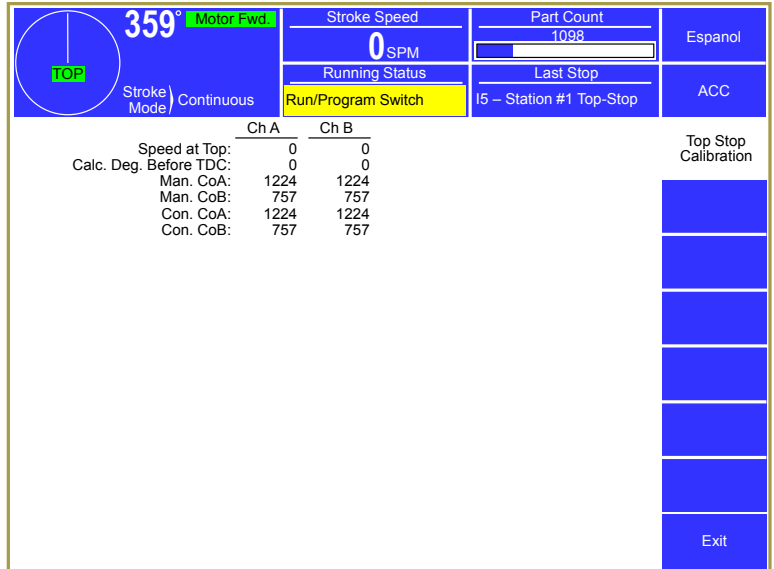

Figure 53: Top Stop Calibration Factory Diagnostics Screen
- When the press control is operating with a calibrated stopping curve, the calculated speed and degrees before top dead center can be viewed in the “Factory Diagnostics” screen shown in Figure 53, and should indicate the actual values for this speed.